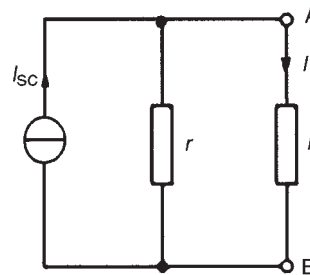

Figure 13.53
Note the symbol for an ideal current source (from BS EN 60617-2: 1996, which superseded BS 3939-2: 1985), shown in Fig. 13.53.
- determine the current I flowing in resistance R from the Norton equivalent network shown in Fig. 13.53, i.e.